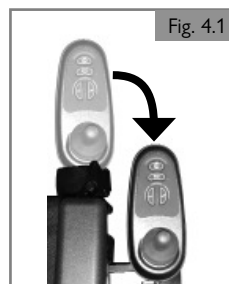

Fig. 4.1
- Only operate the wheelchair at a low and maneuverable speed when the parallel swing-away is in use. (Fig. 4.1)